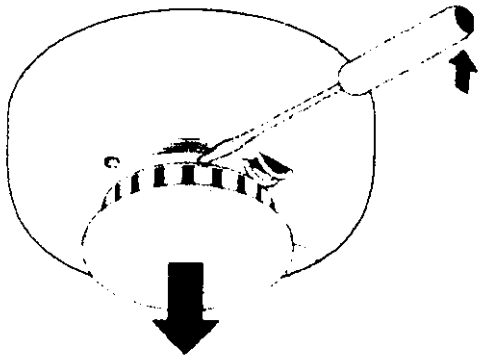

Figure 5
2. Slide a flat-blade screwdriver in the slot on the detector cap and gently push the handle down to pry the cap up and off. See Figure 5.